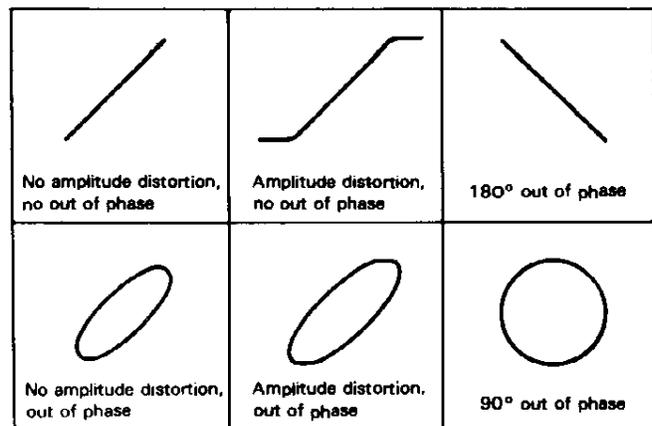

Fig. 36 Typical phase measurement oscilloscope display
- Some typical results are shown in Fig. 36.